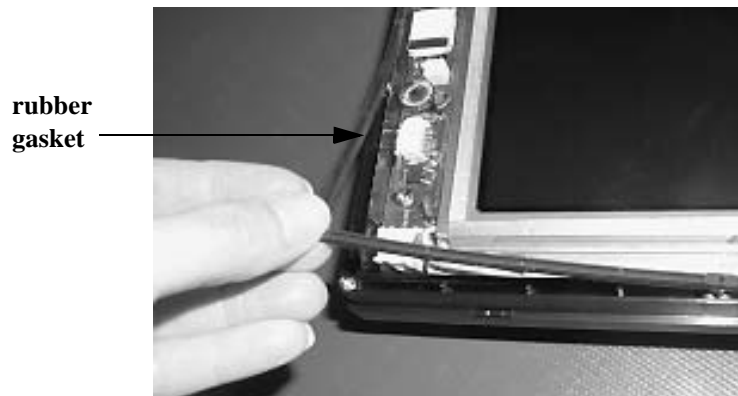

Figure 3 Rubber Gasket
- Important** The rubber gasket that fits along the rim of the unit seals out moisture. Push it back into place if it comes out when you remove the touchscreen. See *Figure 3* below.